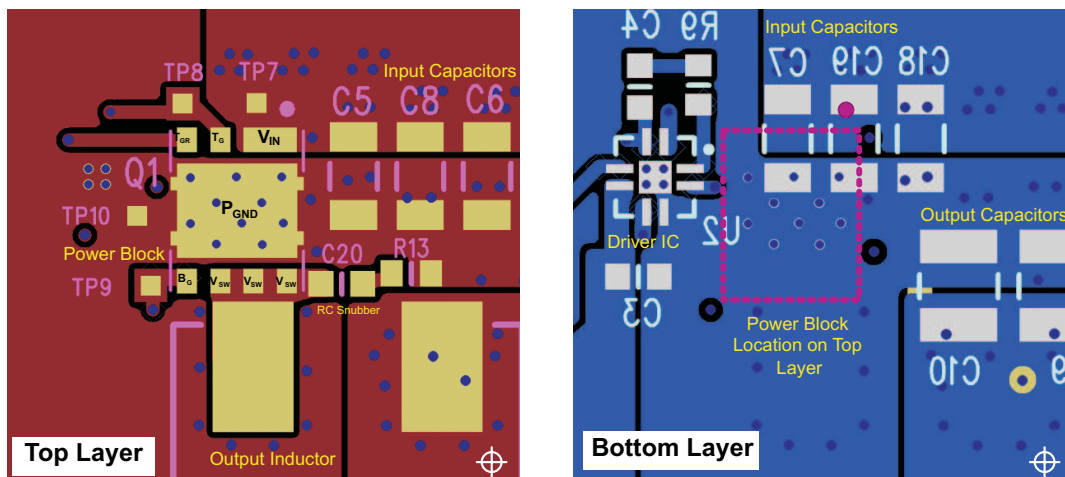

Figure 35. Recommended PCB Layout (Top Down View)
- The placement of the input capacitors relative to the power block's VIN and PGND pins should have the highest priority during the component placement routine. It is critical to minimize these node lengths. As such, ceramic input capacitors need to be placed as close as possible to the VIN and PGND pins (see Figure 35). The example in Figure 35 uses 6 × 10-μF ceramic capacitors (TDK Part # C3216X5R1C106KT or equivalent). Notice there are ceramic capacitors on both sides of the board with an appropriate amount of vias interconnecting both layers. In terms of priority of placement next to the power block, C5, C7, C19, and C8 should follow in order.
- The switching node of the output inductor should be placed relatively close to the power block VSW pins. Minimizing the node length between these two components will reduce the PCB conduction losses and actually reduce the switching noise level. In the event the switch node waveform exhibits ringing that reaches undesirable levels, the use of a boost resistor or RC snubber can be an effective way to easily reduce the peak ring level. The recommended boost resistor value will range between 1 Ω to 4.7 Ω depending on the output characteristics of driver IC used in conjunction with the power block. The RC snubber values can range from 0.5 Ω to 2.2 Ω for the R and 330 pF to 2200 pF for the C. Please refer to TI App Note Snubber Circuits: Theory, Design and Application (SLUP100) for more details on how to properly tune the RC snubber values. The RC snubber should be placed as close as possible to the VSW node and PGND see Figure 35 (1)
- Use the smallest drill size allowed in your design. The example in Figure 35 uses vias with a 10-mil drill hole and a 16-mil capture pad.